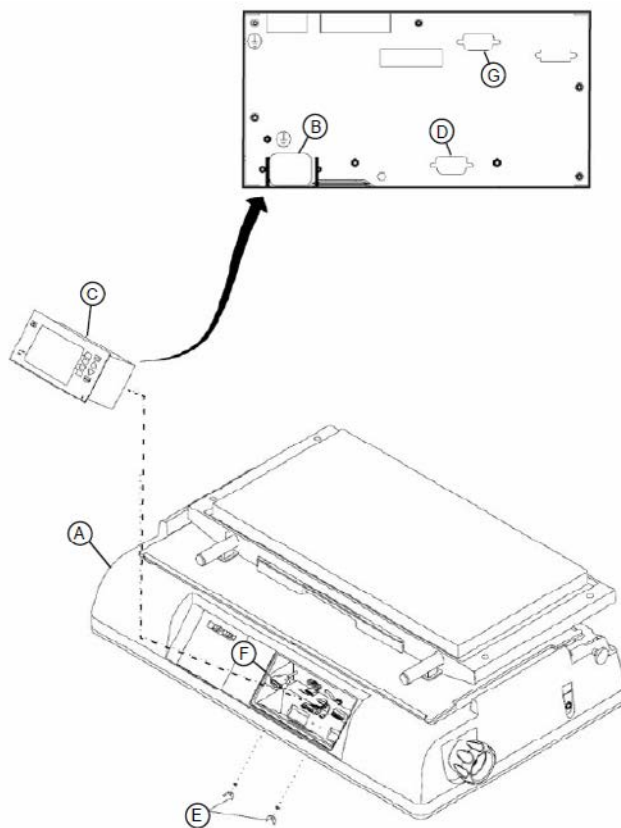

Fig. 67 Controller
- 18** From under the upper shell assembly (Fig. 67/A), perform the following:
- Disconnect the AC power cord from its connector (Fig. 67/B) on the back of the controller assembly (Fig. 67/C).
- If necessary, disconnect the cable attached to the RS-232 port (Fig. 67/D).
- Remove and retain the two wing nuts and flat washers (Fig. 67/E) located next to the AC power connector (Fig. 67/B) and the RS-232 port (Fig. 67/D).
- 19** Slide the controller assembly (Fig. 67/C) out from the upper shell assembly (Fig. 67/A) until its cable connectors are visible.
- 20** Disconnect the cables from the controller assembly (Fig. 67/C).
- 21** Remove the controller assembly (Fig. 67/C) from the upper shell assembly (Fig. 67/A).